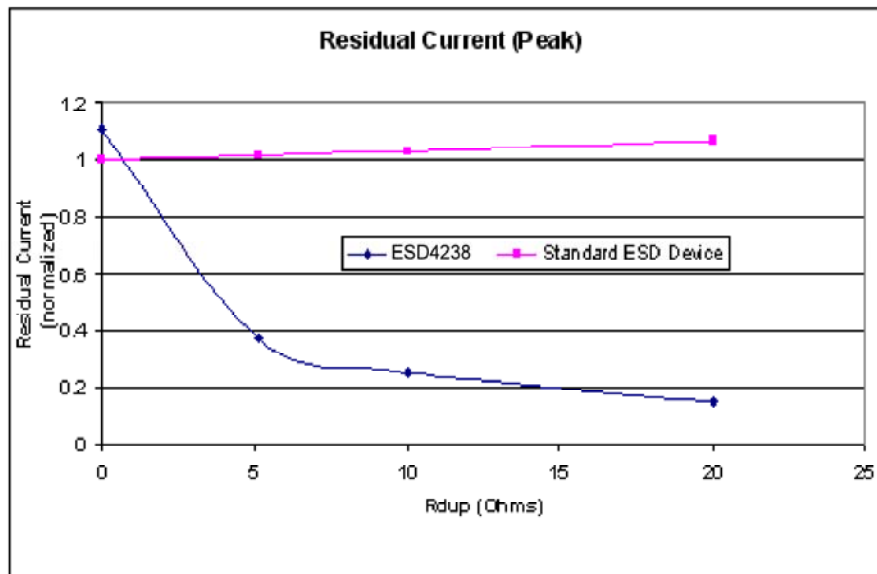
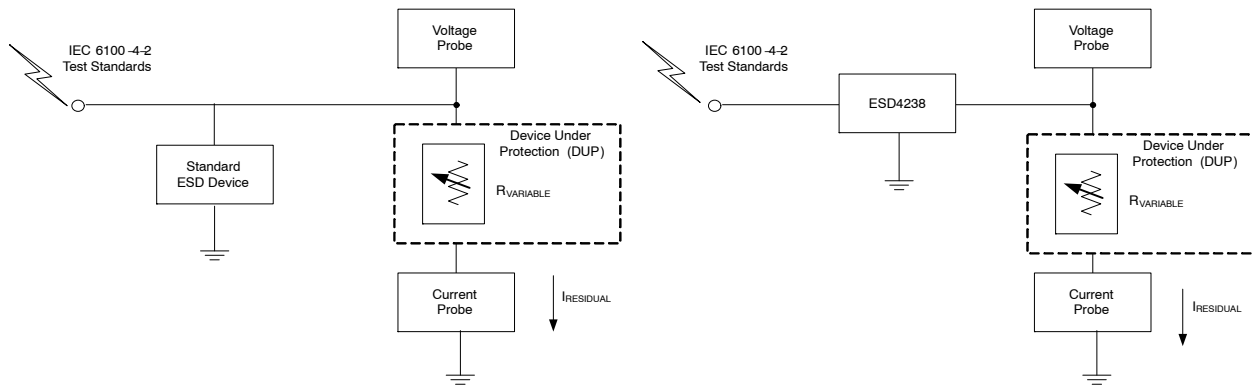

Figure 6. Normalized Residual Current into DUP vs. RDUP*
Figure 7. Test Setups: Standard Device (Left) and ESD4238 (Right)
protection device. Figure 6 also indicates that the DUP/ASIC protected by the ESD4238 dissipates less power than a standard ESD protection device. This data was derived using the test setups shown in Figure 7.
*RDUP is the emulated Dynamic Resistance (load) of the Device Under Protection (DUP). See Figure 7.